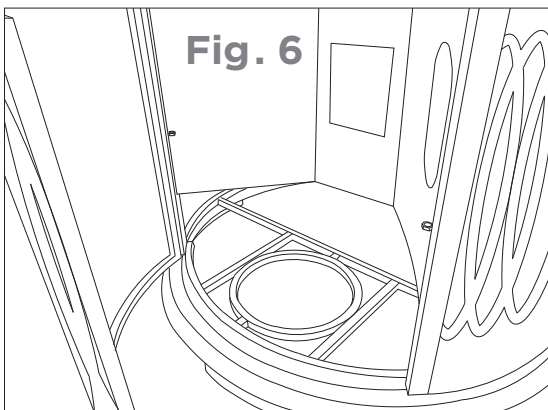

Fig. 6
1. Open the door, put the chain and control valve outside (see Fig. 6).